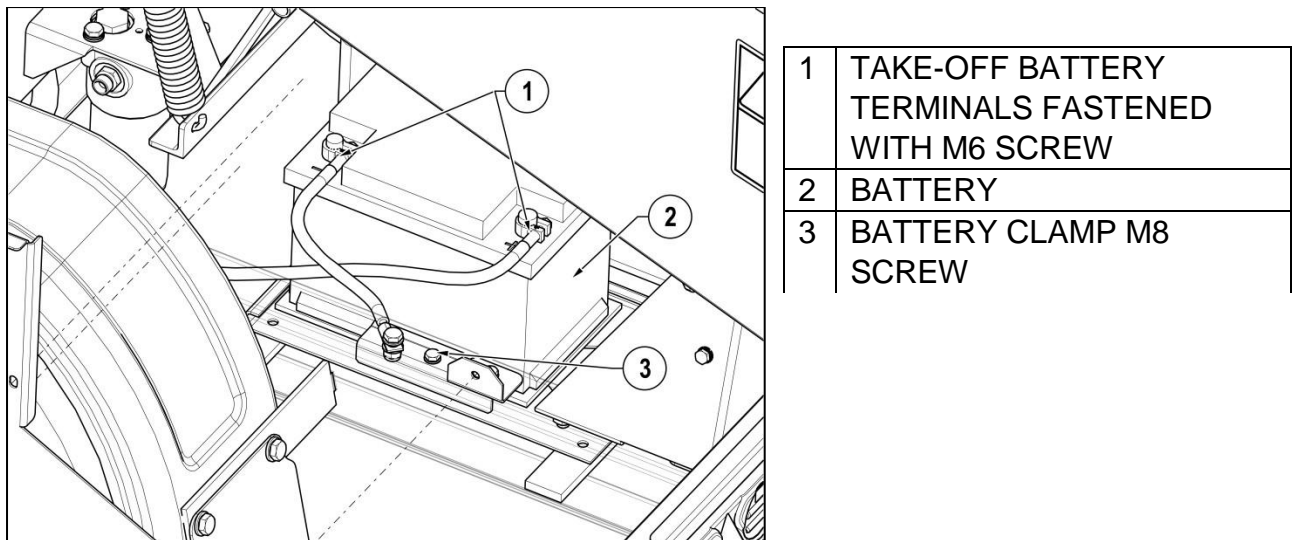

Figure 18
2. To gain access to the battery, remove left side panel as shown in Figure 9 & Figure 18.